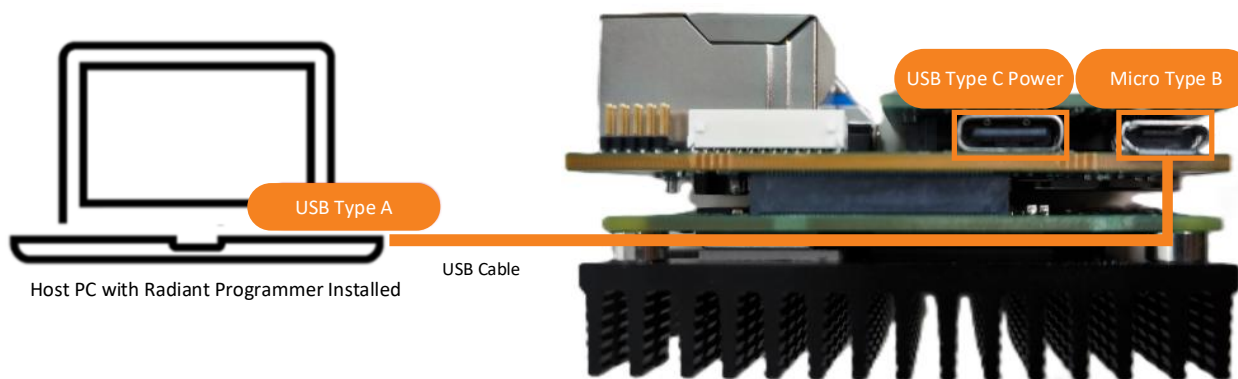

Figure 5.13. Hardware Setup for Serial Console Access
This section explains how to access Raspberry Pi CM5's Linux terminal through its built-in serial console. This allows for network-free headless access. The minimal connection required for serial console access is shown in Figure 5.13. A USB Type C power brick provides power to the module while a USB Type A to Micro Type B cable provides connectivity from the Host PC to Raspberry Pi CM5.
1. Connect the board to the PC using a USB Type A to Micro Type B cable, as shown in Figure 5.13. Connect the power adapter to the Raspberry Pi CM5 board and power on the adapter.